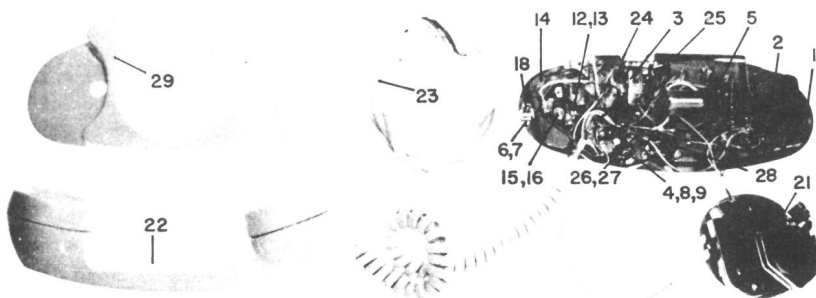

Fig. 1 TOP VIEW - HOUSING REMOVED
NOTE: The 703 (LR) 30 is identical to Figure 1 except that the built-in combination dial light/night light is omitted. See Figure 1.